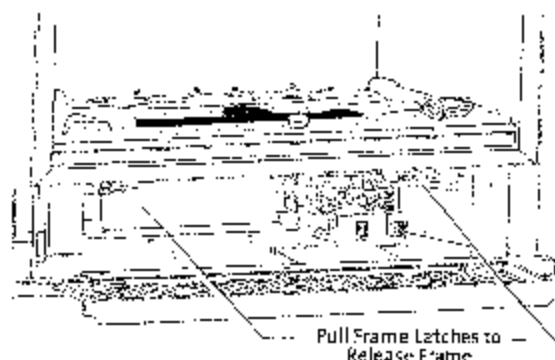

Figure 18. Glass Frame latch locations.
- 1. Remove the Glass Frame, if you have not already done so.** Remove the Ashlip and locate the two frame latches under the firebox floor. See Fig. 18. Pull the latch handles forward to disengage them from the bottom of the glass frame. You can then pull the frame out and up off of the three retainer tabs at the top of the firebox opening. Set the Glass frame out of the way.